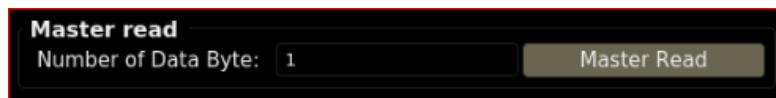

Figure 6.19. I2C Master Read
6. Enter the number of bytes to read in the **Number of Data Byte** box as shown in Figure 6.19 and click **Master Read**. The results of the read transaction are shown in the transaction log table, and the data value read out can be found in the data column of the transaction log table.